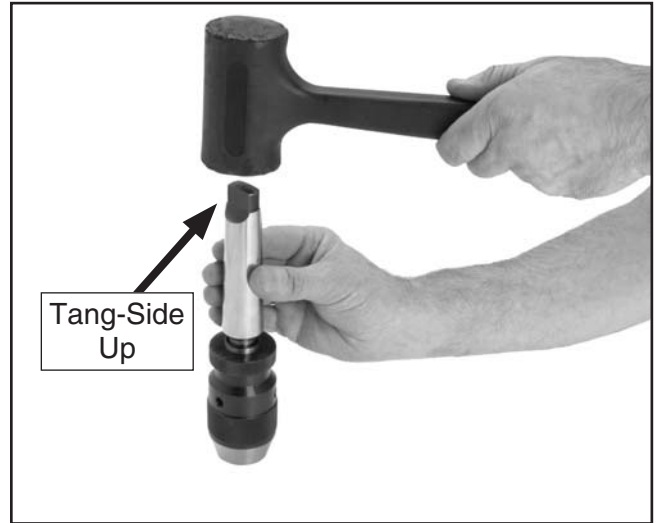

Figure 16. Seating arbor into chuck.
3. Place the drill chuck face down on a workbench. The arbor has a short taper and a long taper. Place the short taper into the socket in the back of the drill chuck and tap it with a rubber or wooden mallet, as shown in **Figure 16**. If the chuck fails to remain secure on the arbor, repeat **Steps 1 & 2**.
4. Slide the arbor into the spindle socket while slowly rotating the drill chuck. The socket has a rectangular pocket where the tang (or flat portion of the arbor shown in **Figure 16**) fits into.